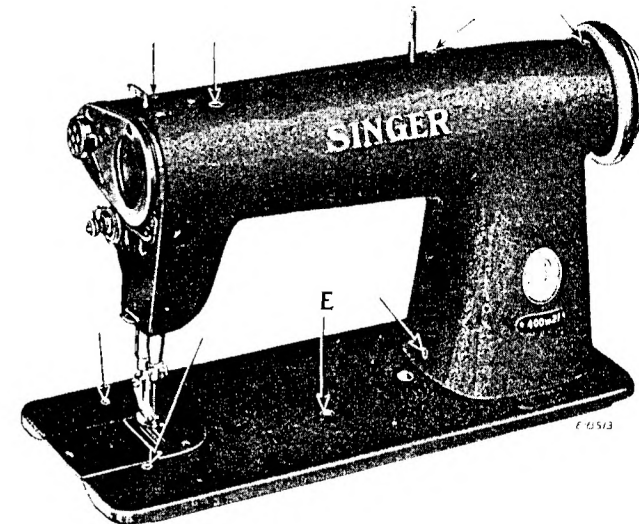

Fig. 3. Showing the Eight Oiling Points on the Machine
**BEFORE STARTING THE MACHINE**, fill the oil reservoir (through the oil gauge hole) to the top mark on the oil gauge E, Fig. 3.
**AT THE BEGINNING OF EACH WORKING DAY**, turn the machine pulley until the needle is **ALL THE WAY UP**, and place **A FEW DROPS** of oil in each of the seven oil holes indicated by the arrows in Fig. 3.